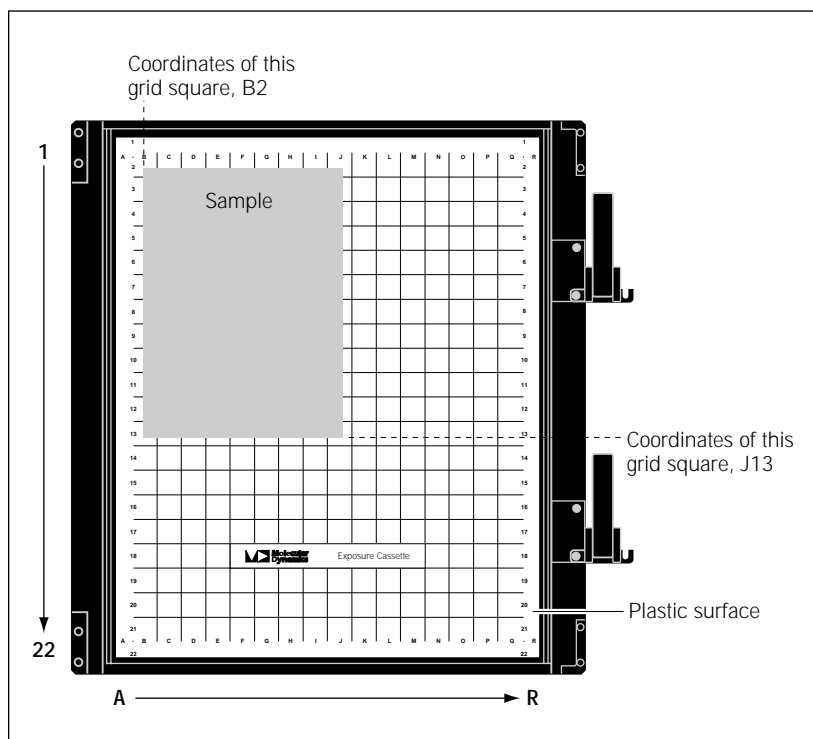

Figure 5-2. Placing the sample in the exposure cassette.
- To avoid possible edge effects, you should place the sample at least 1 cm from the edge of the screen. For example, use the area B2 through J13 for the small screens and the area B2 through Q21 for the large screens, as shown in figure 5-2.
- Align the lanes and rows of the sample with the edges of the grid so that the scanned image will be straight, as shown in figure 5-2.
3. Make a note of the coordinates of the upper left and lower right corners of the area you want to scan (as shown in figure 5-2). The grid coordinates in the exposure cassette match the coordinates in the Storm instrument. You will use this information later in the Scanner Control window (section 6.4.3).